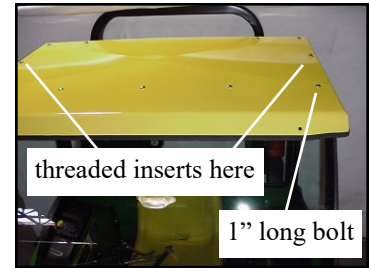

Fig. 7.1 Install Roof
- 7.1 With assistance, install roof as shown using 5/16 x 3/4" long button head screws, plastic washers, steel washers, and locknuts in all holes except the middle ones on the left and right side (these two bolts do not require lock nuts). (see fig. 7.1). (Also note: front left, and front right corners take 1" long bolts)